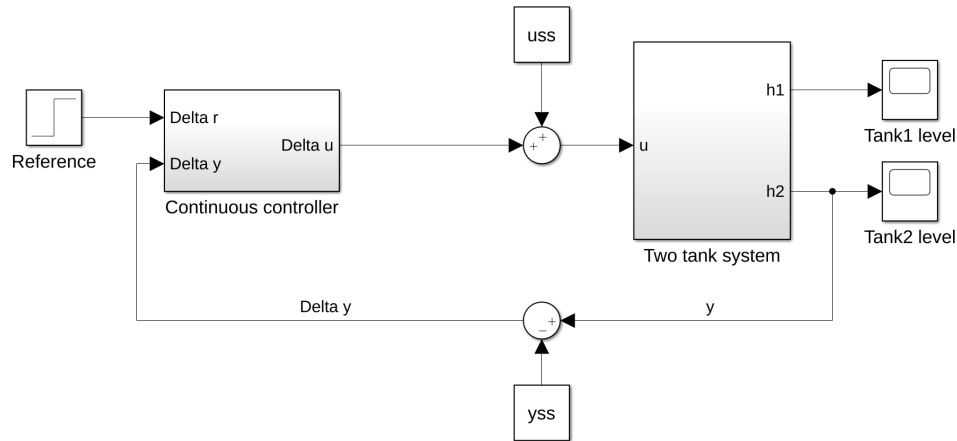

Figure 2: Simulink model of closed loop system.
- Open the Simulink model by typing `tanks`. Also open the Simulink model `controllers`. Move the continuous controller to the tanks model and connect them as shown in the Figure 2. Check the Reference block and describe what the reference signal will look like. Explain why the `uss` and `yss` blocks are needed. [2p]